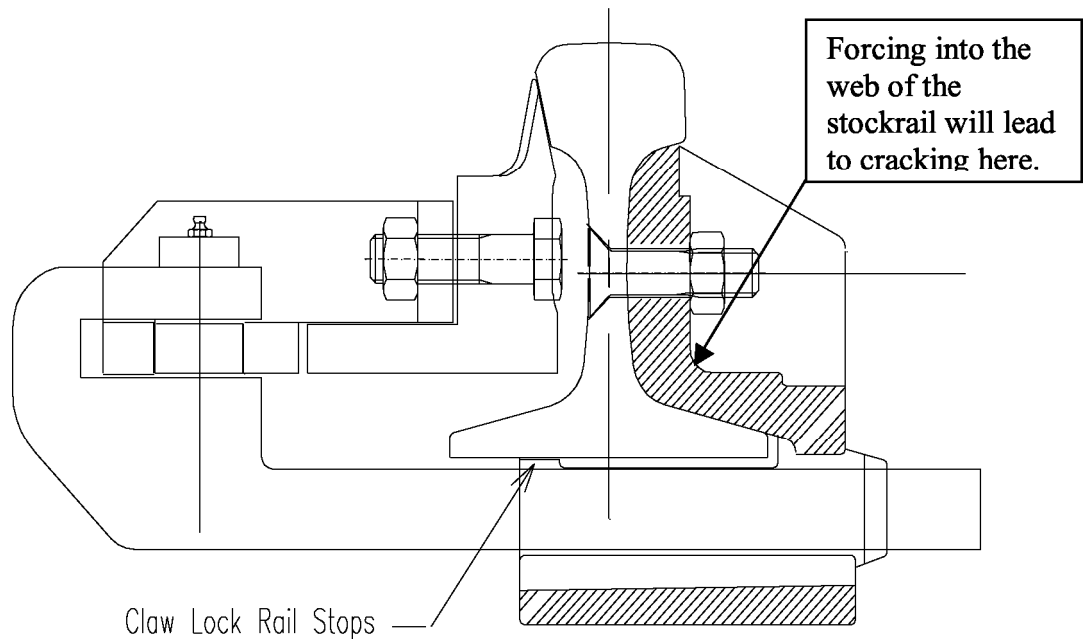

Figure 1.4 – Claw lock rail stops
2. Check the fit of the claw lock (1) to the stockrail. The claw lock has two stops on the rail underside section, refer to figure 1.4. These stops are deliberately left oversize to cover tolerance variations in rail cross section and are provided to limit any rotation of the claw lock and consequent misalignment.